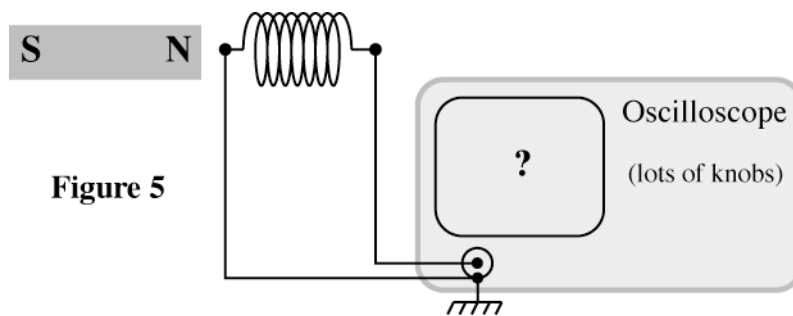

Figure 5
16. Connect the oscilloscope X1 probe to your pick-up coil as shown in Figure 5 to measure the voltage across the coil. Quickly pass the small magnet across the coil and observe the induced voltage on the oscilloscope. Draw the shape of the signal and explain why there is a positive as well as negative part to the signal. Approximately how large is your signal?